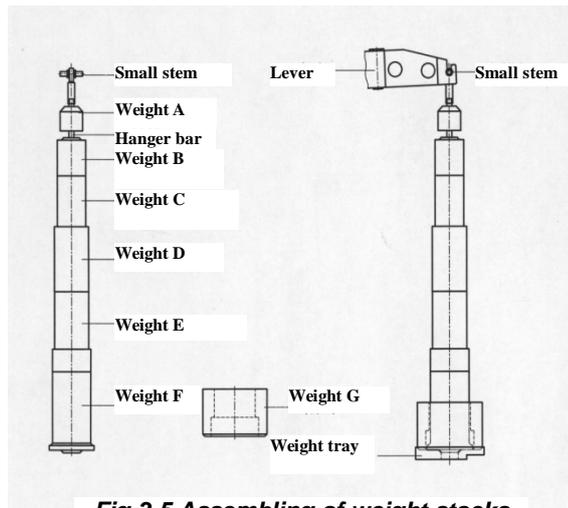

Fig 3-5 Assembling of weight stacks
8. How to assemble weights: Refer to Figure 3-5.
- Carefully take out of the weight stacks, assemble them according to Figure 3-5.
- Put the small stem which is at the top of the weight stack into the slot which is at the end of lever. At this moment, the bottom surface of the two weights should be exactly on the weight tray. Refer to Figure 3-5.